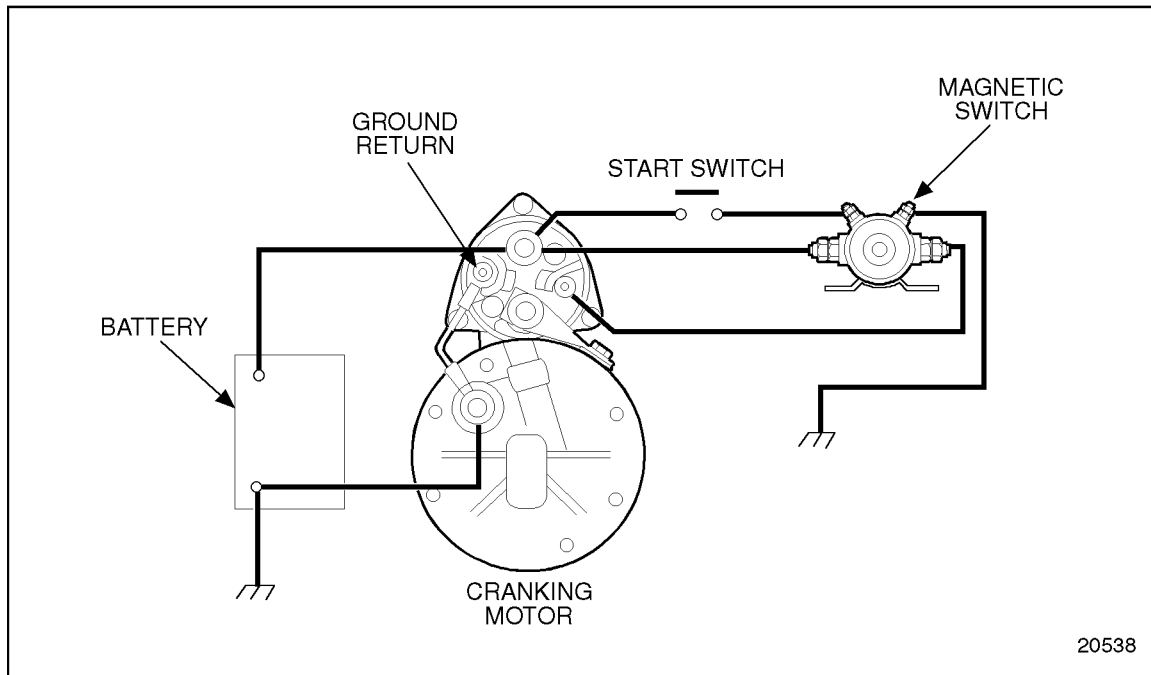

Figure 5-1 Basic Cranking Circuit
2. Clamp a heavy gage battery jumper cable between the two large studs of the magnetic switch; see Figure 5-1.